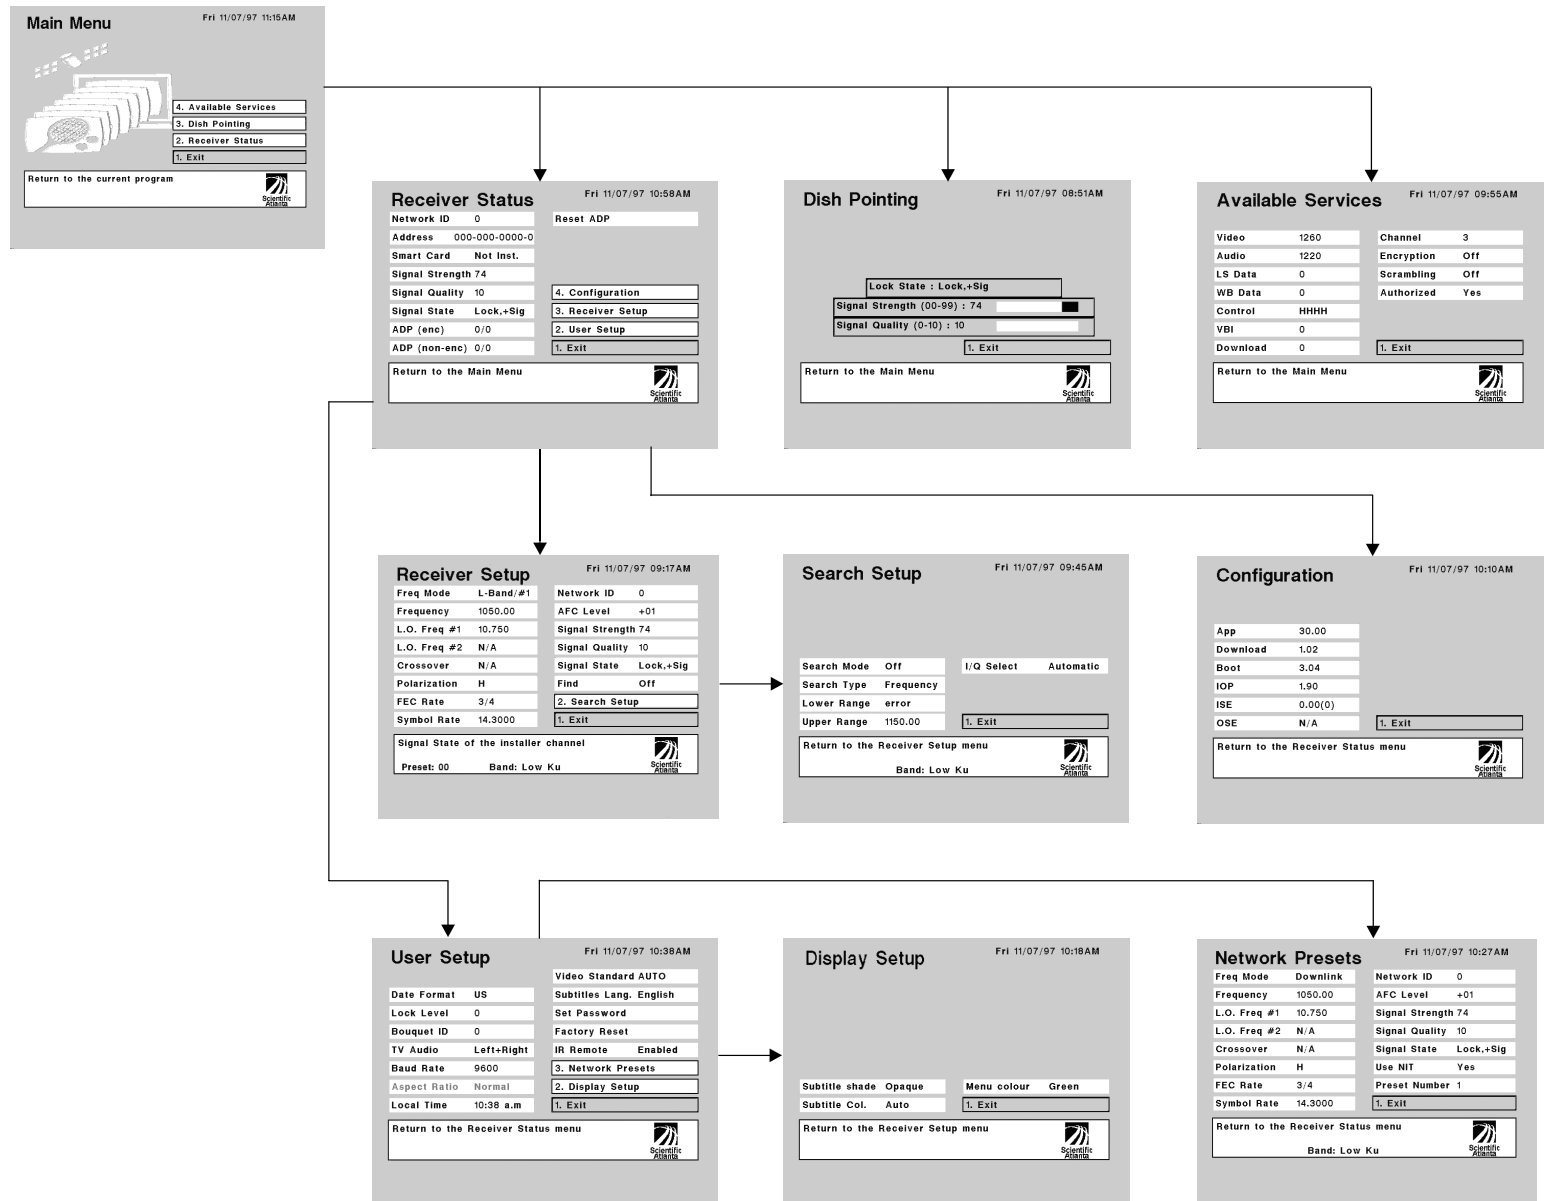

Figure7. Menus at-a-glance
**Step 1.** Display the **Main Menu** (see Figure 7).